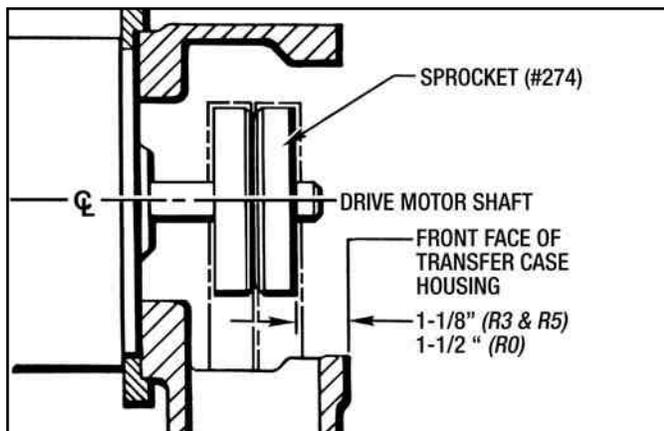

Figure 9.08 - Secondary Drive Sprocket Alignment
8. Center the Sprocket (#274) on the motor shaft and insert the Bushing (#412) into the sprocket. Position the sprocket from the front face of the transfer case housings, as shown in *Figure 9.08*. Tighten (2) set screws in the Bushing (#412).
10. Install Gasket (#77) and Access Cover (#271) with (6) Screws (#63). **Do not use any gasket sealant when installing this gasket.**